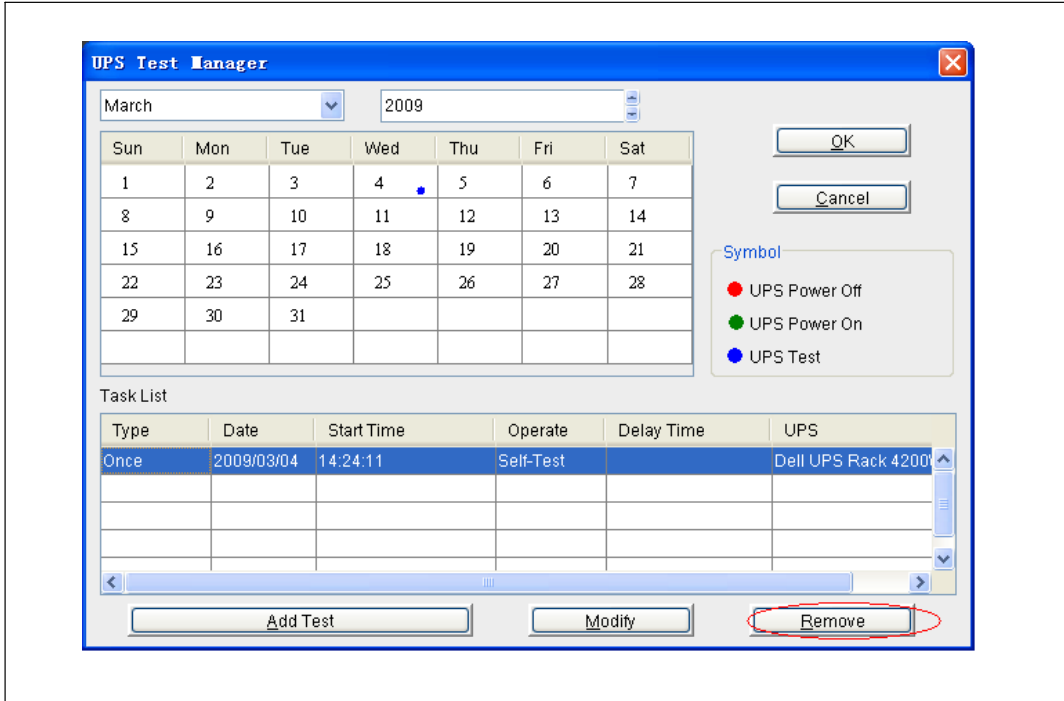

Figure 79. Remove Task
- 2 Click **Remove** to cancel the task (see Figure 79).